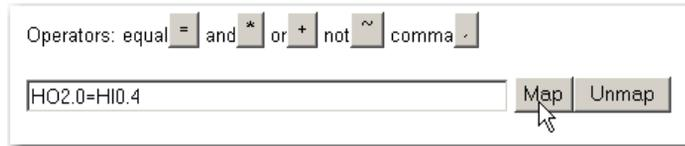

FIG. 339 ASSIGNMENT STATEMENT IS COMPLETE
Step 6. Click on the Select button. The Source address appears in the Map text field. (See Fig. 339)
Step 7. The Mapping Assignment Statement is complete. (See Fig. 339) Tare (HO2.0) = User Switch 1 (HI0.4)